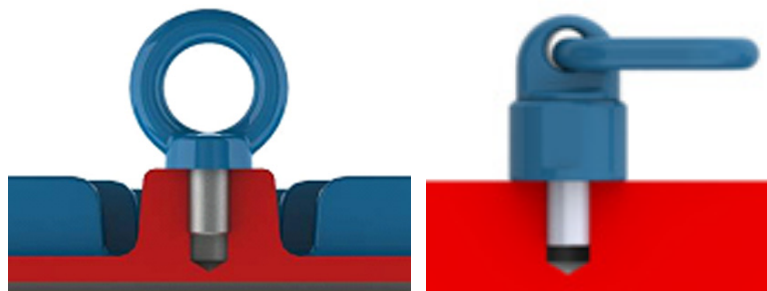
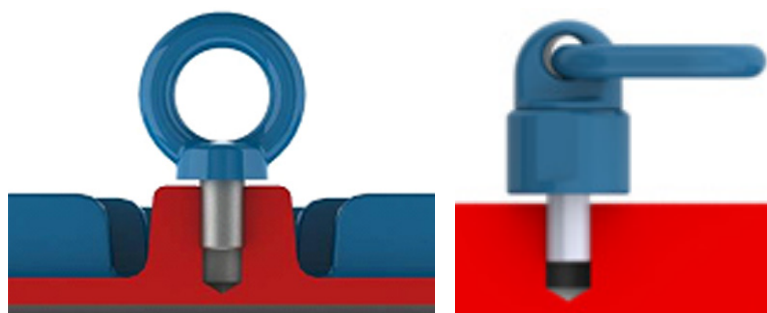

Figure 4.1: Correct tightening of the eyebolt
Figure 4.2: Incorrect tightening of the eyebolt
Before lifting the motor ensure that all eyebolts are tightened properly and the eyebolt shoulders are in contact with the base to be lifted, as shown in Figure 4.1 on page 20. Figure 4.2 on page 20 shows an incorrect tightening of the eyebolt.
1. Ensure that the eyebolts are tightened properly, as shown in Figure 4.1 on page 20.